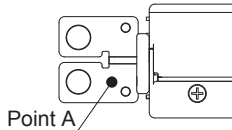
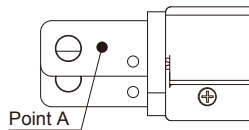

Fig. 1.1 PCA300F to PCA1000F Temperature measurement point
Fig. 1.2 PCA1500F Temperature measurement point
■When wiring the load wire, because of heat generation, so that the temperature of points A in Fig1.1 or Fig1.2 is lower than the temperature specified in Table 1.1 - Table 1.4